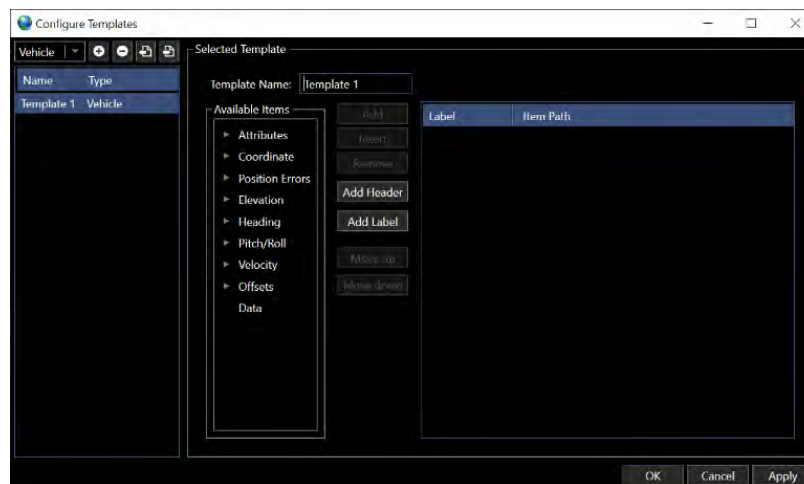

FIGURE 8-15 TEXT TEMPLATE - VEHICLE TYPE
3. Select the desired type and click the button to add the template to the list ready to be configured (see Figure 8-15 for an example of a Vehicle type)